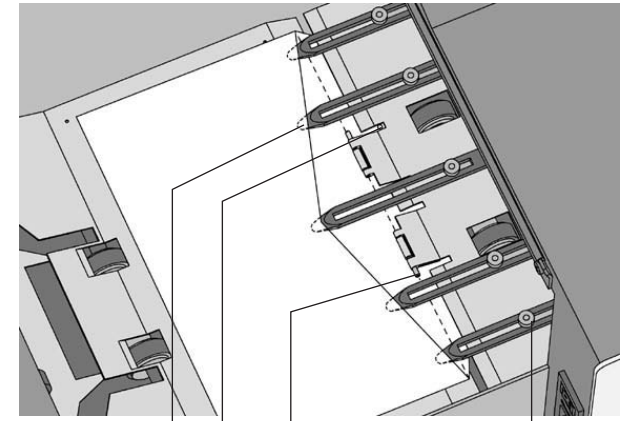

Fig. 22
Press key 1 in the "test run" menu to bring one envelope onto the insert table. Lift the locking lever of the loc and pull the loc into the vertical position. The flap folding line must be positioned under the green indicator C (Fig. 22). If necessary adjust the flap folding line position by pressing key 4 or 5 in the "test run" menu. Each key stroke stops the next envelope 0,5 mm (0.02 inch) to the right (earlier) or to the left (later). Check the settings by pressing key 1 again.
To adjust the insert fingers A (Fig. 22) (5 in total) loosen the knurled knob D on top of each finger.
When adjusting the fingers sideways, be sure that finger A (fig. 22) is not positioned over sensor B. When an incorrect finger position is adjusted the display shows an error screen.